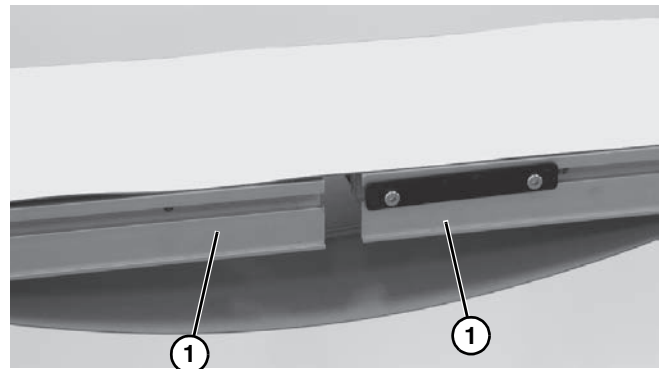

Figure 5
3. Roll out conveyor belt and place conveyor frame sections (Figure 5, item 1) into belt loop.